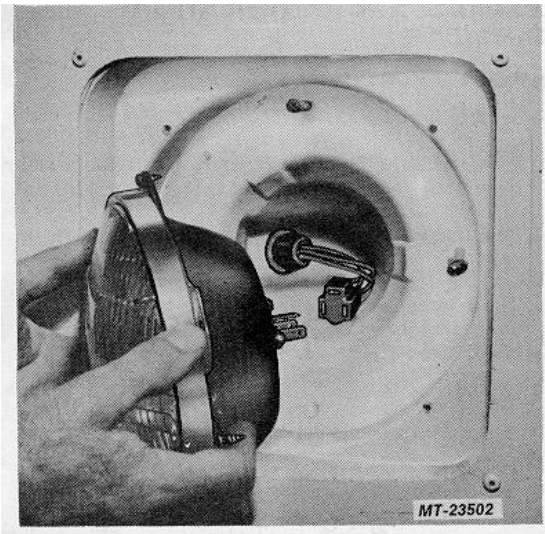

Fig. 7 Removing Headlight Assembly
4. Disconnect three-way wiring connector from rear of sealed beam unit and remove headlight assembly (Figure 7).